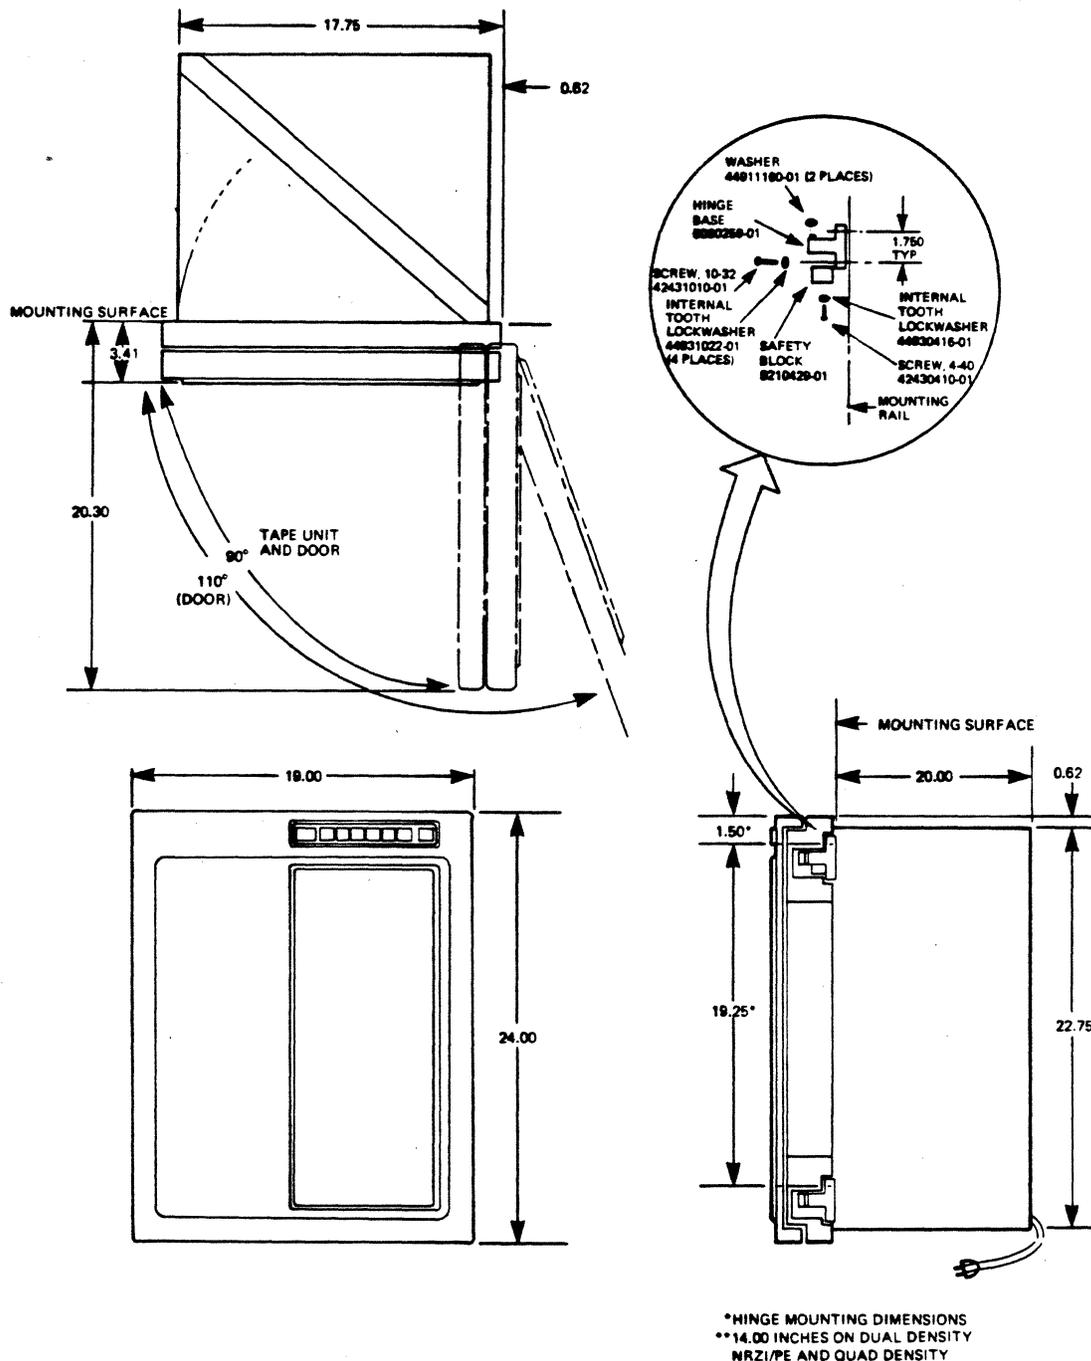

Figure 2-7. Installation Mounting Dimensions for the 2790 Tape Unit
To mount the tape unit, refer to figure 2-7 and proceed as follows:
- c. Lift the tape unit and set it on the hinges in the 90-degree open position (figure 2-7). The tape unit is now mounted in place and can be swung to closed position and latched.